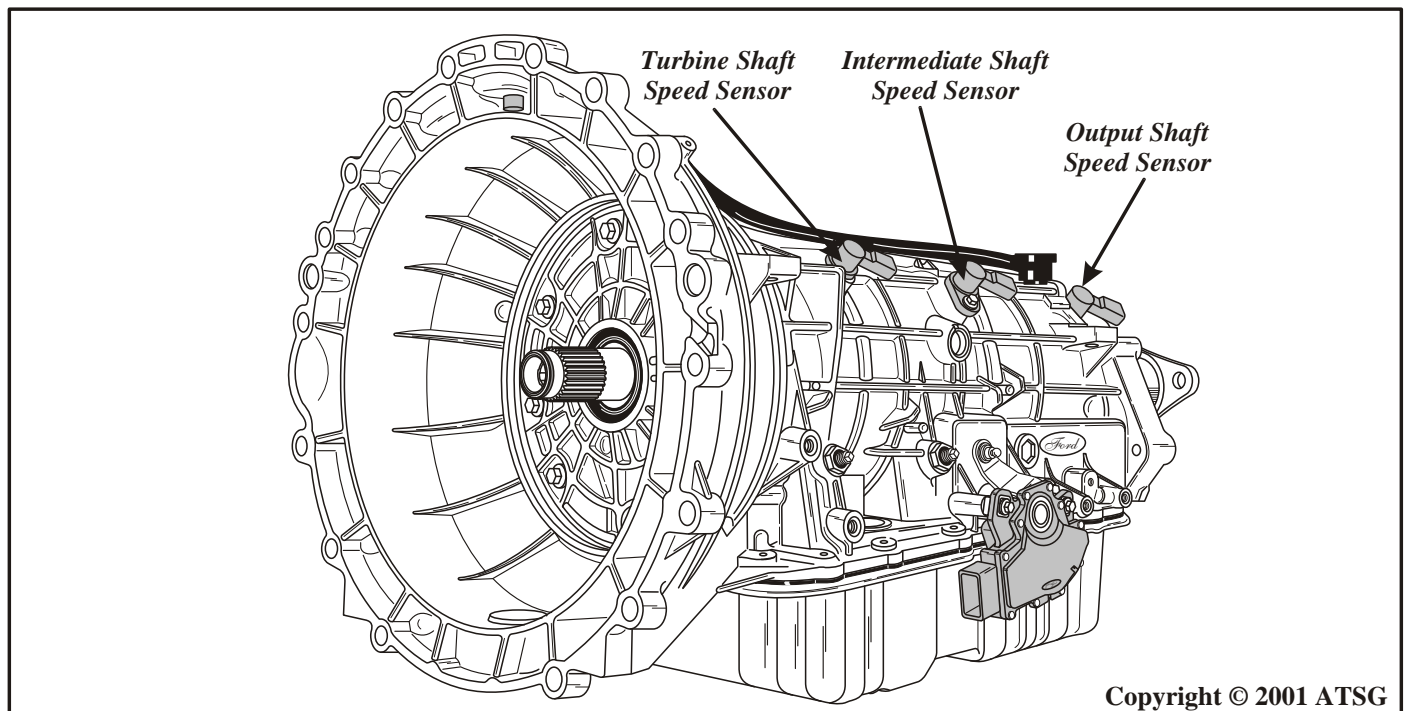

Figure 185
4. Install a new "O" ring on turbine speed sensor and install into case in the location, as shown in Figure 185.
5. Install a new "O" ring on the intermediate shaft speed sensor and install into case in the location shown in Figure 185.
6. Install a new "O" ring on output shaft speed sensor and install in case in the location shown in Figure 185.